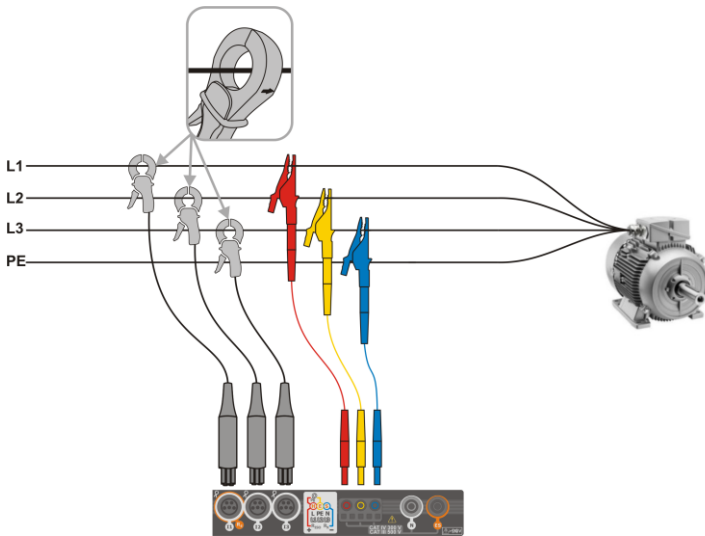
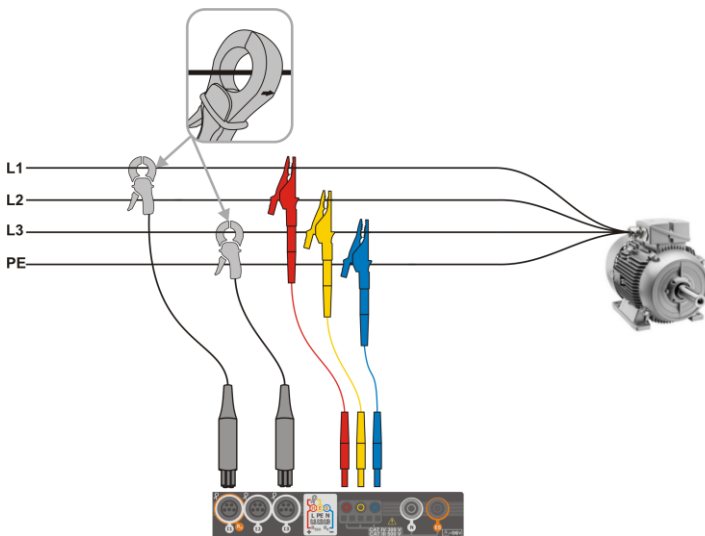

Fig. 5.6 Wiring diagram – 3-phase with three operating wires
Fig. 5.7 Wiring diagram – 3-phase with three operating wires (measurement of currents using Aron method)
- 3-phase 3-wire (Fig. 5.6, Fig. 5.7).
In three-wire AC systems, current may be measured by the Aron method (Fig. 5.7), which uses only two clamps that measure linear currents I_{L1} and I_{L3} . I_{L2} current is then calculated using the following formula: